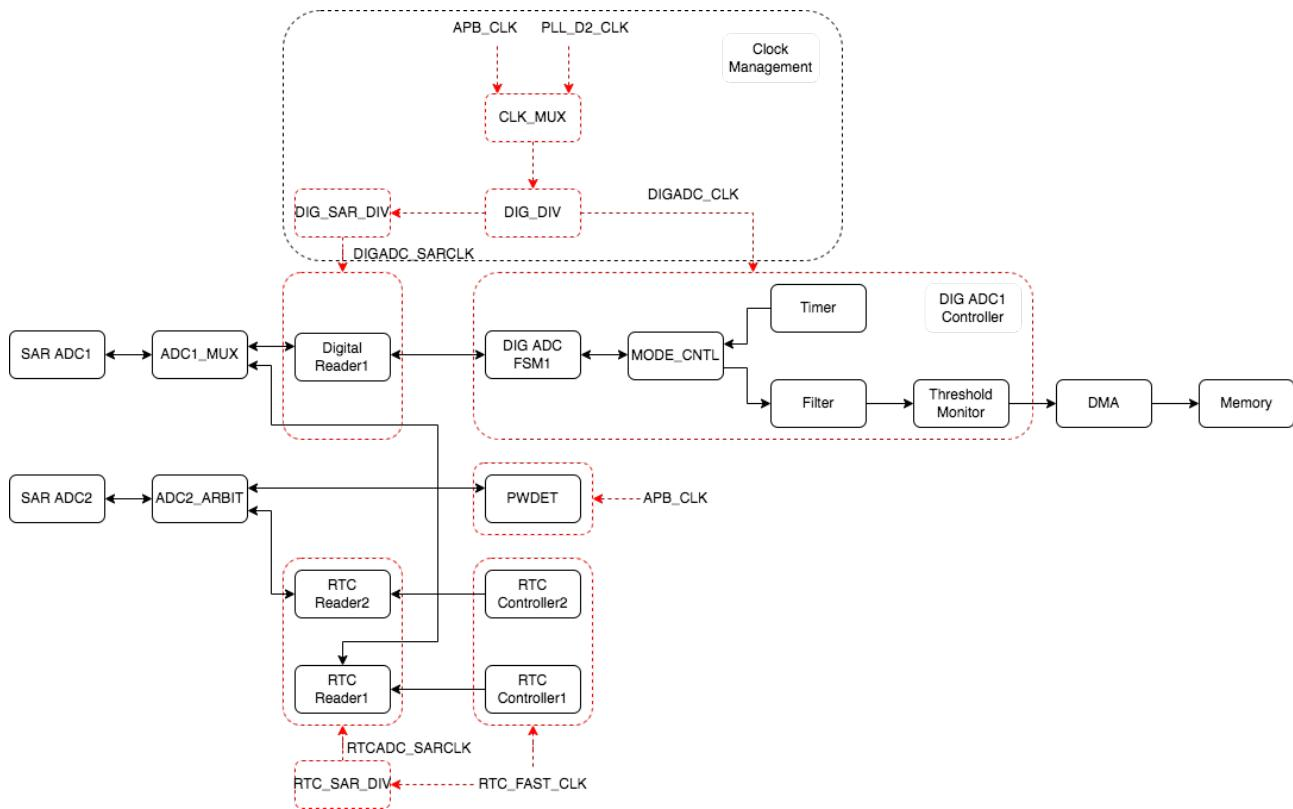

Figure 39.3-2. SAR ADC Architecture
- Each SAR ADC controller has its own ADC Reader module. See Figure 39.3-2.
The major components of SAR ADCs and their interconnections are shown in Figure 39.3-2.
As shown in Figure 39.3-2, the SAR ADC module consists of the following components: